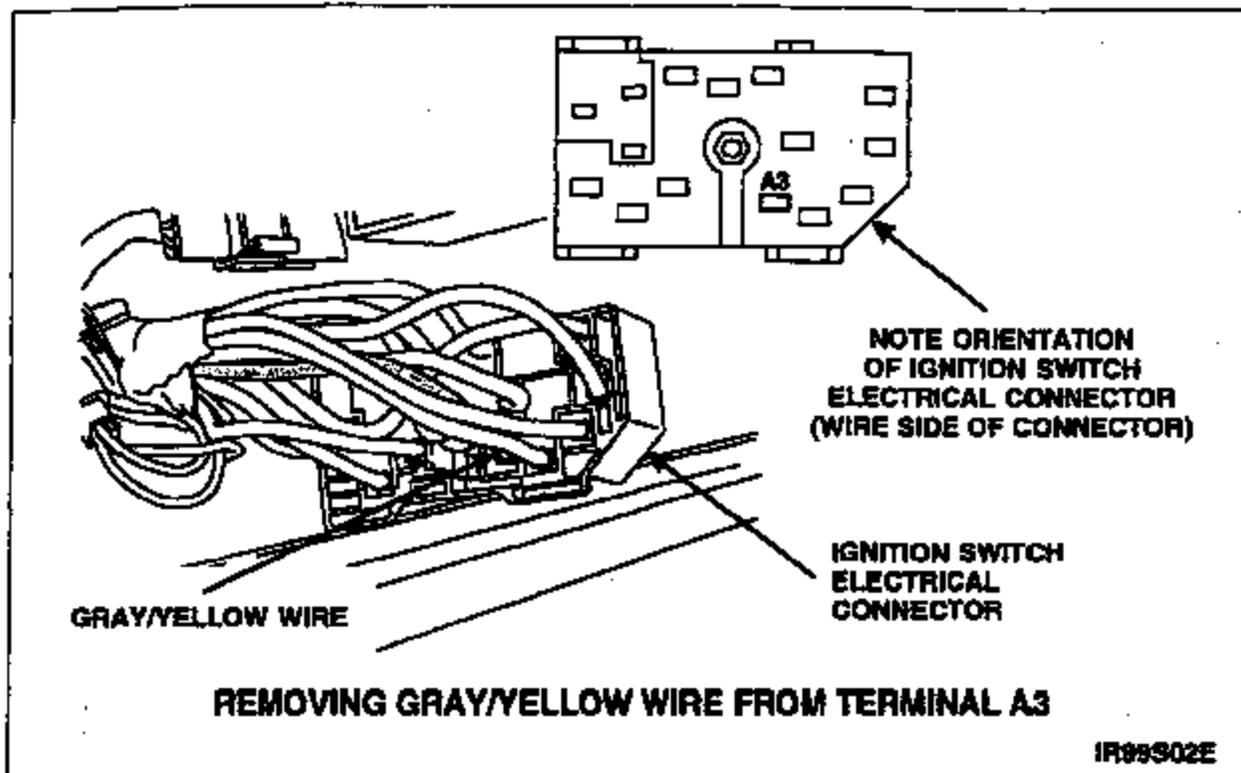

FIGURE 5
7. Remove the gray/yellow wire, circuit 687, from terminal A3 of the ignition switch electrical connector. See Figure 5.